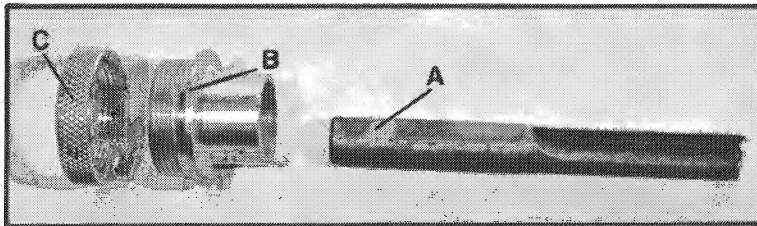

Fig. 7
A wide variety of templet guides are available for use in pattern and templet routing operations, Fig. 7 shows a typical combination (A) Bit, (B) Templet Guide, and (C) Locknut.